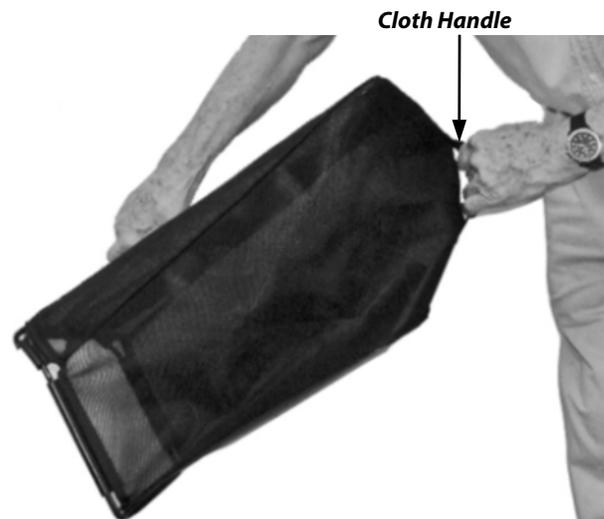

Figure 14
4. To empty the Bagger, tilt the Top Handle forward. Use the Cloth Handle (**Figure 14**) at the rear of the Bagger to move the contents toward the front as you empty the Bagger.